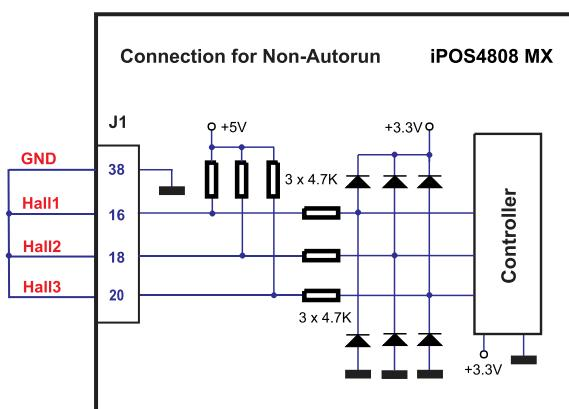

Figure 3.24. Temporary connection during power-on to remove the drive from *Autorun* mode
- Hardware – by temporary connecting all digital Hall inputs to GND, during the power on for about 1s (until the green led is turned on), as shown in *Figure 3.24*. This option is particularly useful when it is not possible to communicate with the drive.
To recover from this behavior, the setup table can be invalidated by connecting all digital Hall inputs to GND, as shown in *Figure 3.24*.